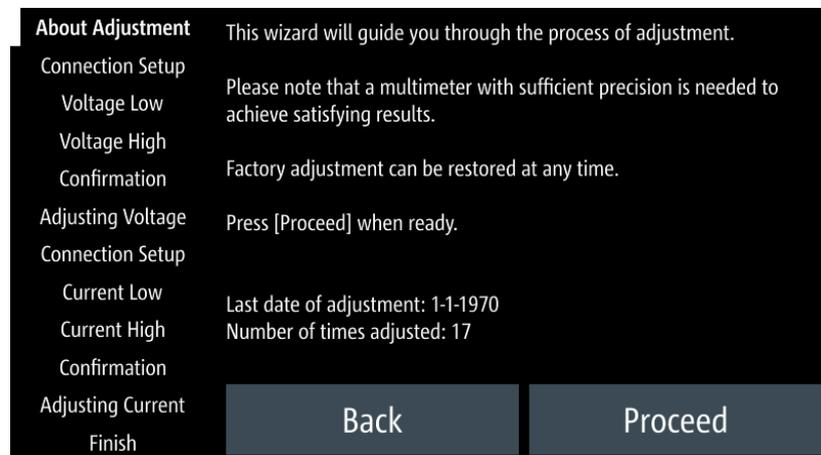
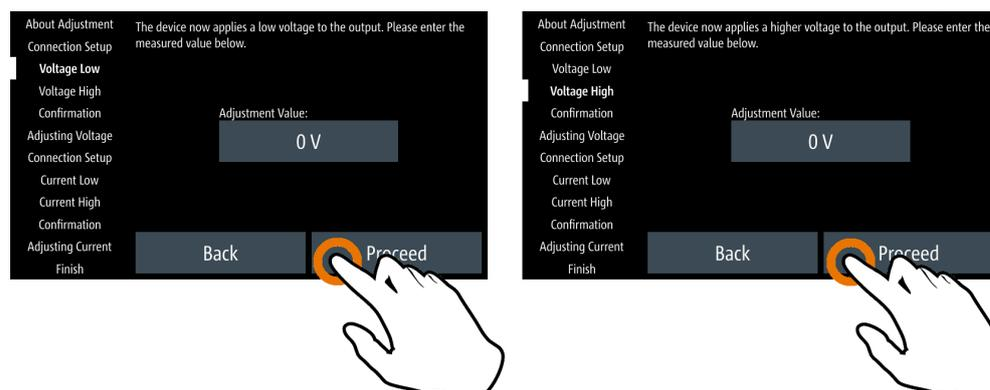

Figure 6-75: Channel adjustment wizard
Figure 6-76: Channel adjustment procedure
- Follow the on-screen instructions displayed in the Figure 6-75. The R&S NGP800 applies a low voltage/current followed by a high voltage/current for voltage/current adjustment. Key in the measured value from DMM using the on-screen keypad. See Figure 6-76.